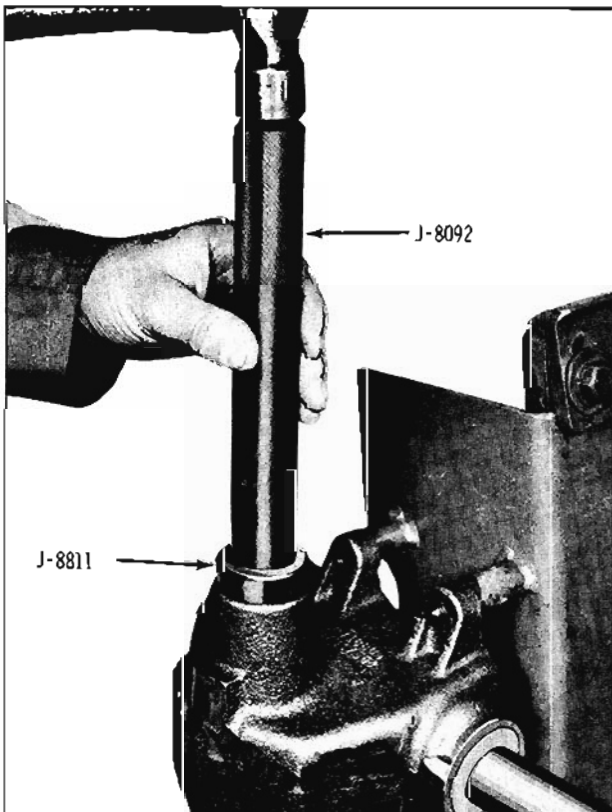

Fig. 8-16 Installing Pitman Shaft Seal
2. Place a new seal into housing with lip of seal facing inward. Drive seal in the housing until it bottoms against shoulder of counterbore, using Tool J-8811. (Fig. 8-16) Coat lip of seal with seal lubricant, Part No. 567196.